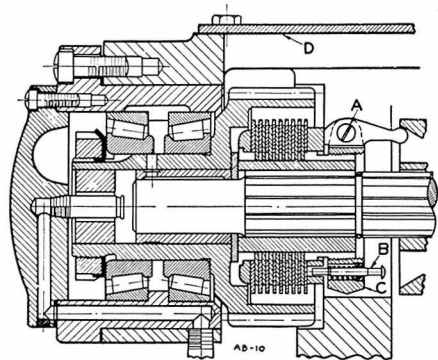

Figure 25
1. Remove the small brass cover "D" which is held to the feed box by four  $\frac{1}{4}$ " hex head cap screws, Fig. 25. (These instructions are also engraved on this cover).